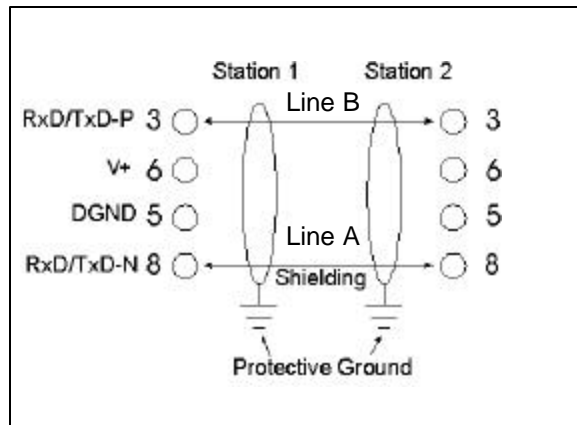

Figure 3 - Wiring
- a. The PBS105 uses a 9-pin D-sub plug connector for its DP port. The DP connector is used for the physical connection between slaves and the master. The pin assignment of the plug connector and the wiring are shown below (Figure 3).